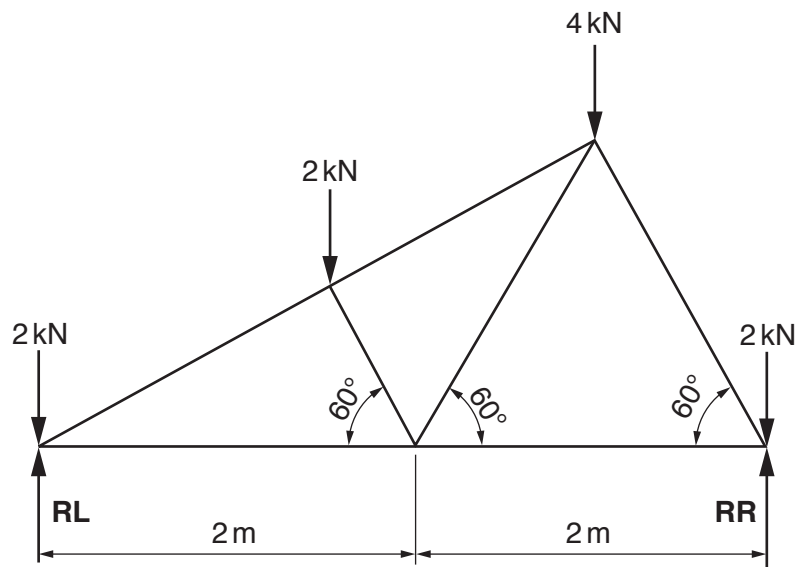

Fig. 5
- (b) Fig. 5 shows a roof truss.